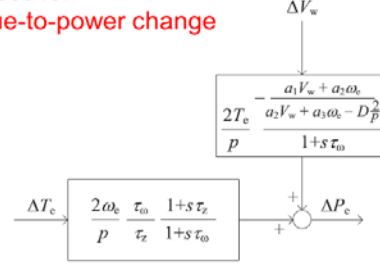

Figure 2: Turbine-rotor interaction process of torque-to-speed change and Torque-to-Power Change
- 3.1) Please implement both block diagrams shown below (Fig. 2) to simulate a torque change of  $\Delta T_e = 1 \times 10^5$  Nm under a stable wind speed ( $\Delta V_w = 0$ ) and plot the resulting speed change and power change, respectively. Explain the reaction of speed and power on a torque change. Simulate again with  $\Delta T_e = 1 \times 10^5$  Nm and  $\Delta V_w = 0.1$  m/s. Plot the results for both cases (both  $\Delta \omega_e$ s in one figure, both  $\Delta P_e$ s in another one). Explain the results.